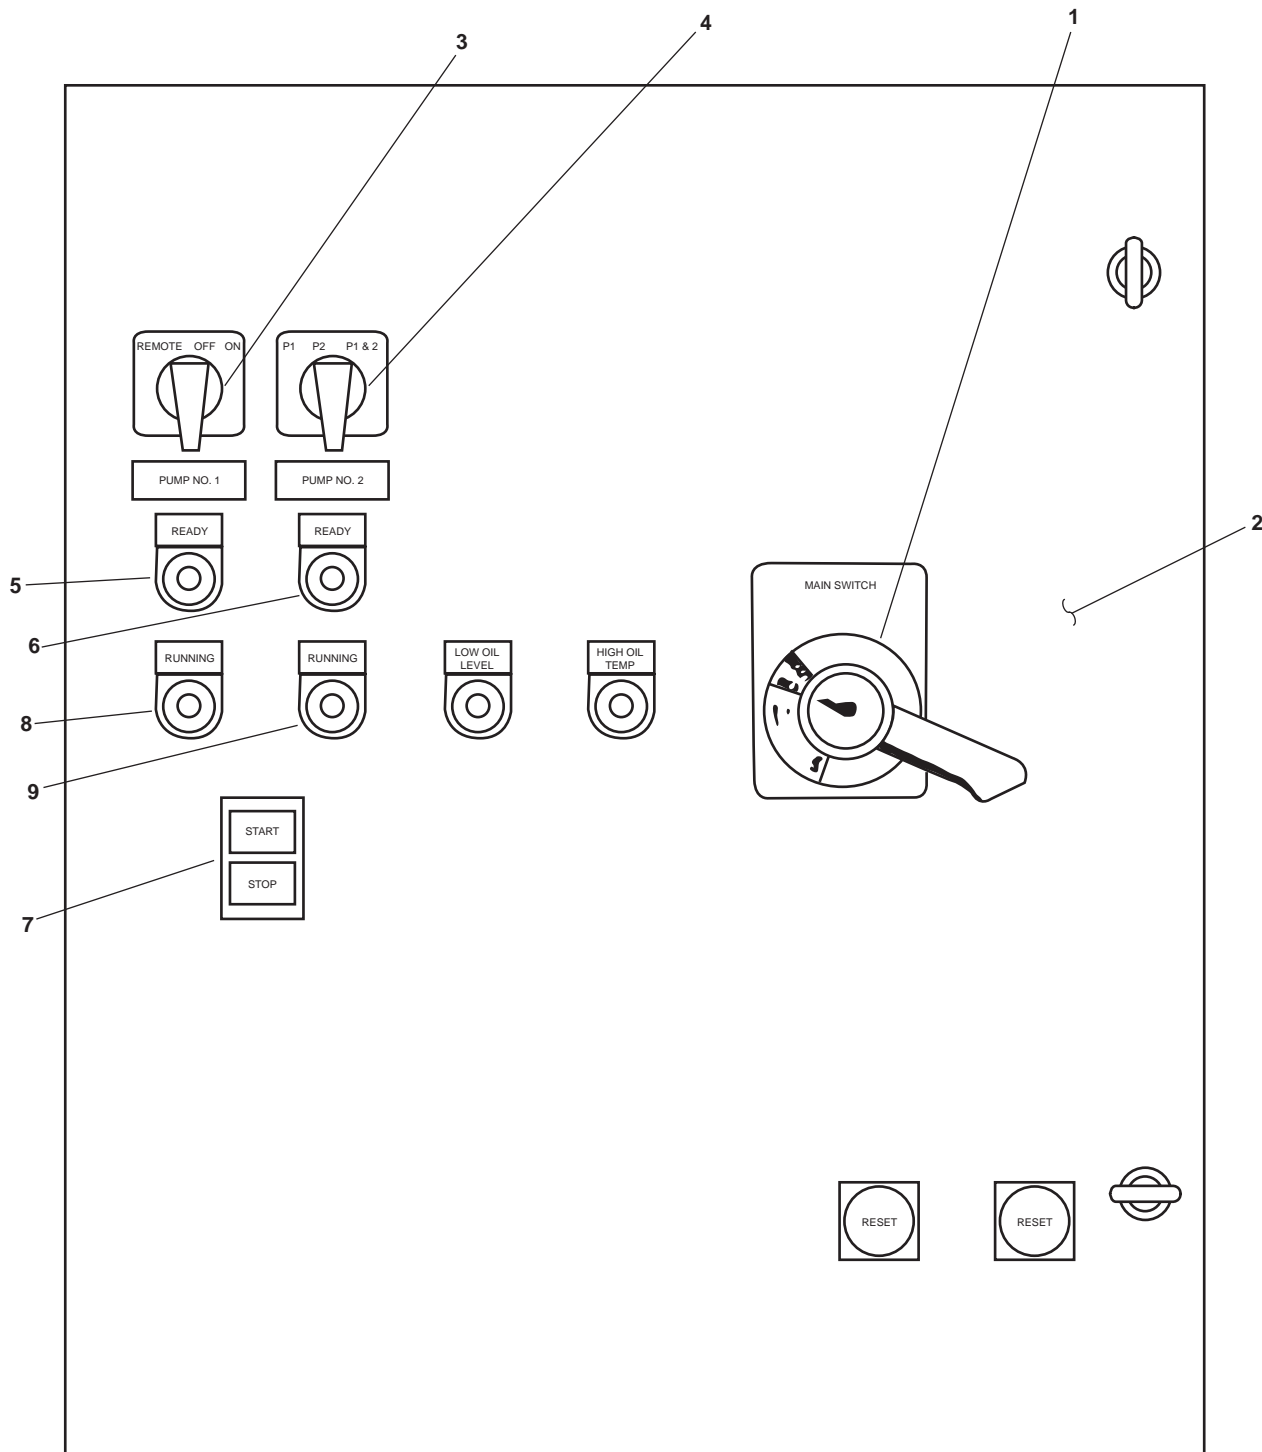
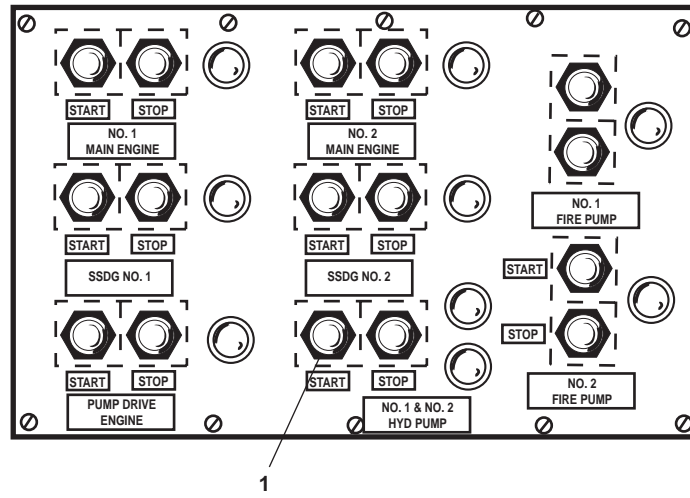

Figure 3. Central Hydraulic System Control Panel
Figure 4. EOS Engine Control Console
5. At the central hydraulic system control panel, set the MAIN switch (figure 3, item 1) to ON.
6. To enable local operation of the central hydraulic system Hydraulic Power Unit (HPU) from the local control panel (figure 3, item 2), set to ON the REMOTE/OFF/ON switch (figure 6, item 3). To enable remote operation from the EOS, set the REMOTE/OFF/ON switch to REMOTE.
7. Set the P1/P2/P1 & 2 switch (figure 3, item 4) to the P1 & P2 position. Operation of both pumps is required to properly support towing machine operations.
8. At the central hydraulic control panel, verify that the READY lights (figure 3, items 5 and 6) are illuminated for both pumps.
9. If local operation was selected in step 6, press the START pushbutton (figure 3, item 7) on the central hydraulic control panel to start the pumps. If remote operation was selected, press the NO. 1 & 2 HYD PMP pushbutton (figure 4, item 1) to start the selected pump(s).
10. Verify that the RUNNING indicators (figure 3, items 8 and 9) illuminate for both pumps on the central hydraulic system control panel.